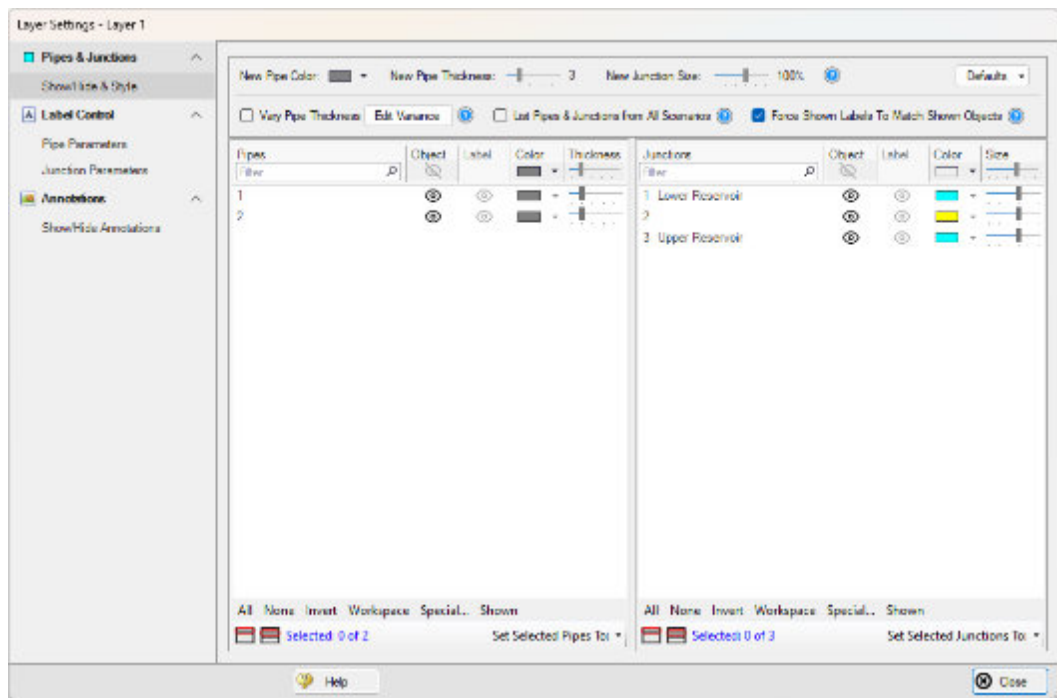

Figure 2.27 The Layer Settings window specifies content to be superimposed on the Workspace
- **Open the Layer Settings window for Layer 1 by double-clicking the layer.** The Layer Settings window is shown in Figure 2.27.